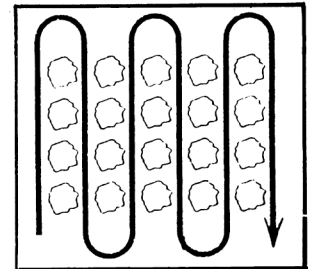

FIGURE 8
- Your tiller may be used for cultivating which requires a minimum of two (2) inches of soil penetration.
- Set depth stake so the tiller will penetrate soil to a depth of 2 to 3 inches. The tiller engine should be run at full throttle except when cultivating small plants. A slower engine is necessary to prevent burying the plants. See Figure 8.